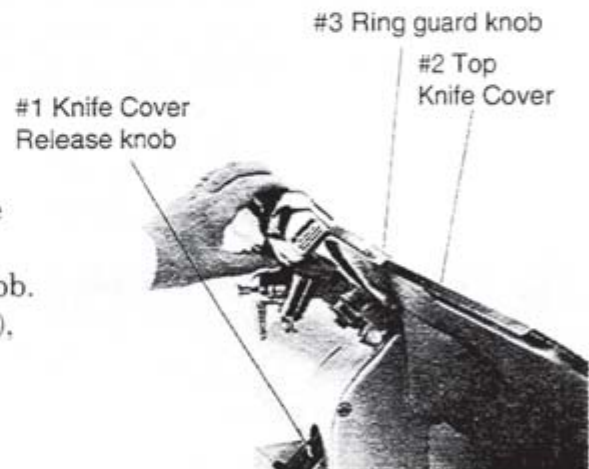

Figure 19-2
4. To expose the knife edge for sharpening, loosen the top knife cover release knob (#1) and rotate the top knife cover (#2) clockwise until it comes to rest on stop pin. Re-tighten the knife cover release knob. Using the knob located on the knife ring guard (#3), (Fig. 19-2) carefully lift the hinged portion of the knife ring guard away from the knife.